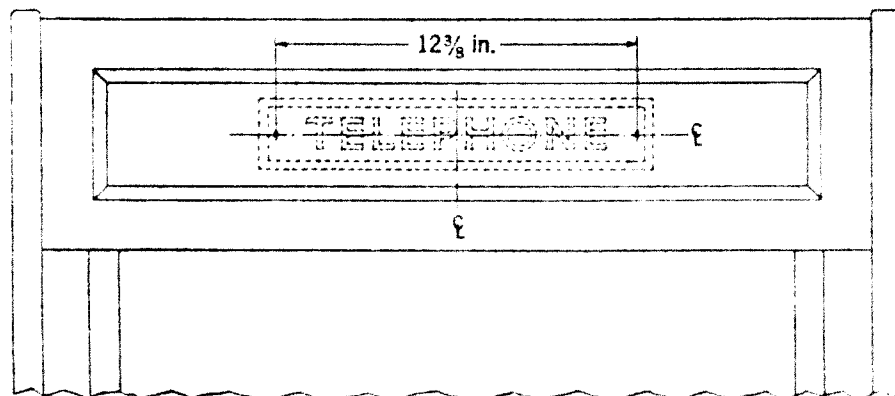
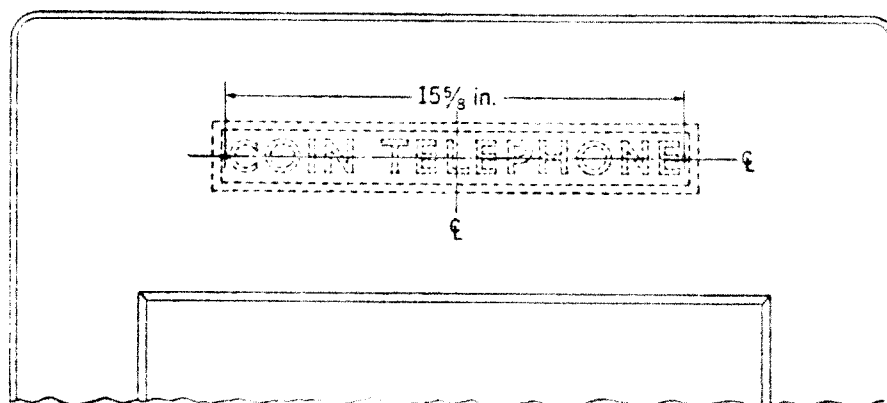

Fig. 15
Fig. 16
5.01 Mount No. 60A and 60B signs above booth floor rail as shown in Fig. 15 or on booth end panel as shown in Fig. 16. Use two 1/2-inch No. 6 R.H. Blued Wood Screws to attach **sign**.